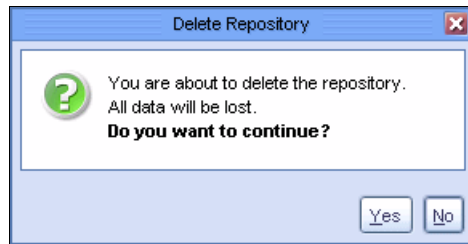

Figure 5-63 Delete the repository and continue
3. A confirmation window opens. Click **Yes** (Figure 5-63).